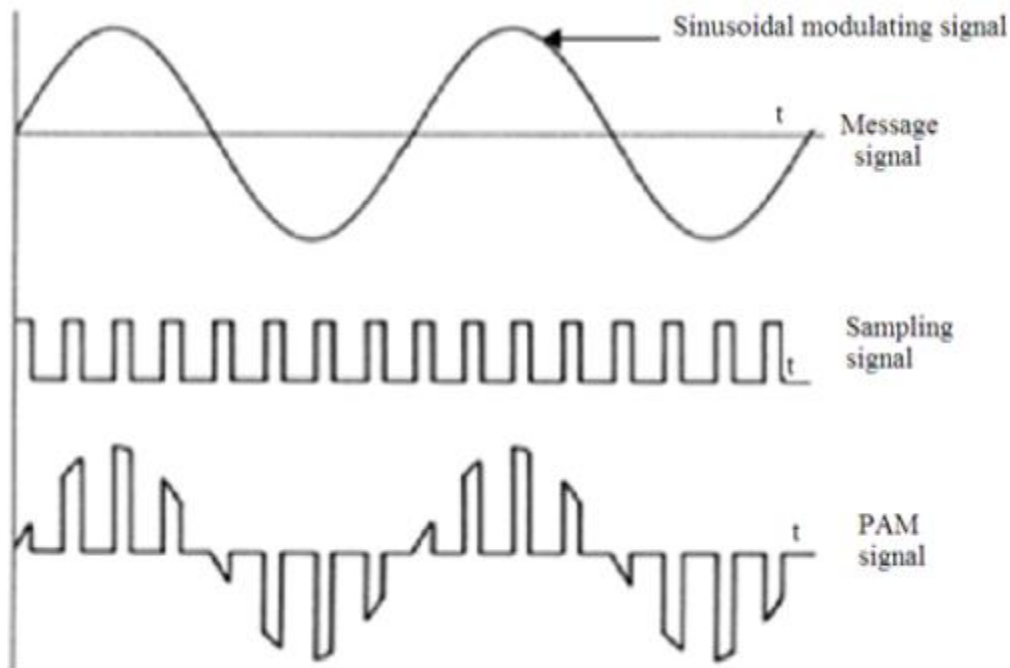

Fig2. Spectrum of PAM signal
- Fig2 shows the spectrum of pulse amplitude modulated signal along with the message signal and the sampling signal which is the carrier train of pulses with the help of the waveform plotted in time domain.